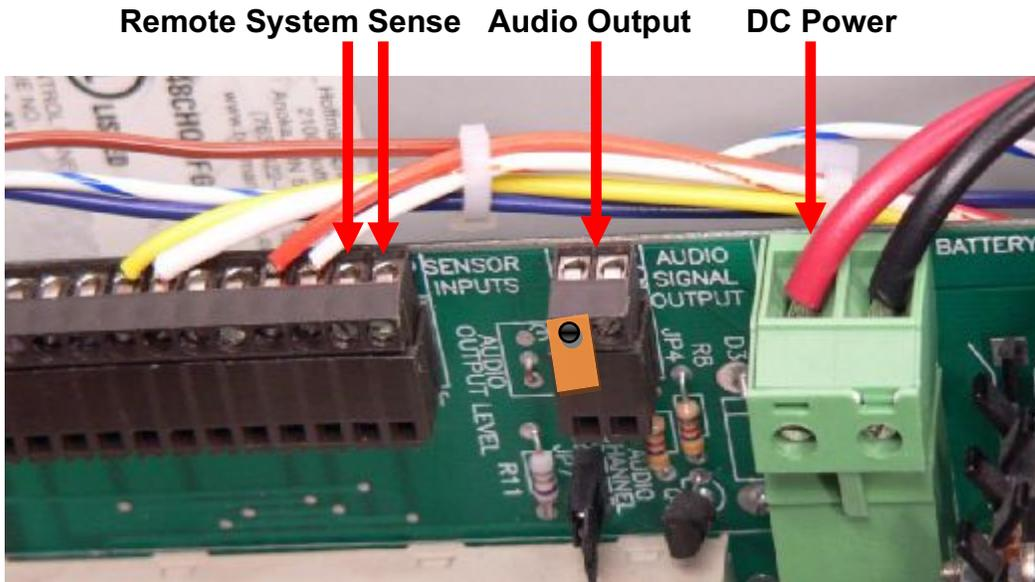

Figure 7.4 - UVRI Remote System Sense, Audio Output and DC Power Connections
1. Refer to *Figure 7.4*. Measure the DC voltage across the DC input connector on the control board. The voltage must be at least 11.5 VDC to turn on the control board. The voltage should be 13.7VDC when AC power is applied to the UVRI.